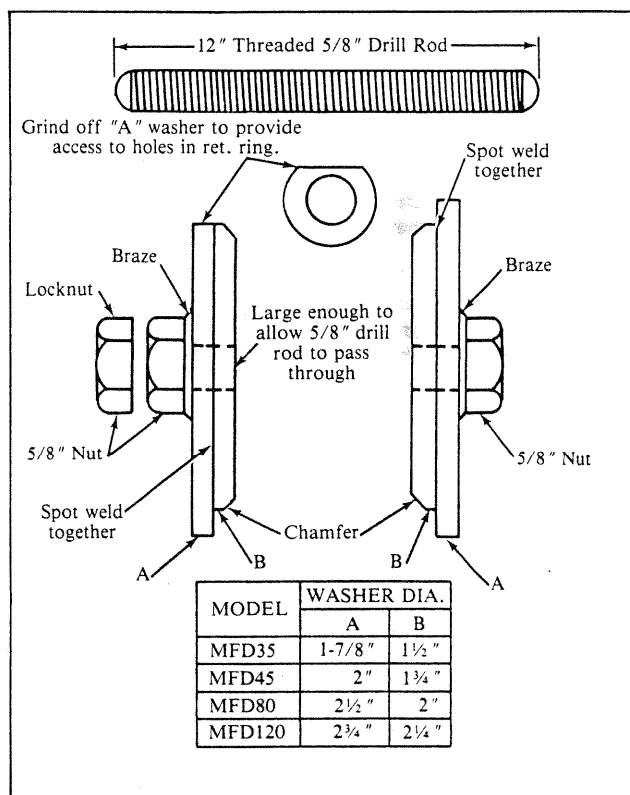

Figure 5. Cylinder Block Spring Decompression Tool
4. Cylinder block removal tool (Figure 5)